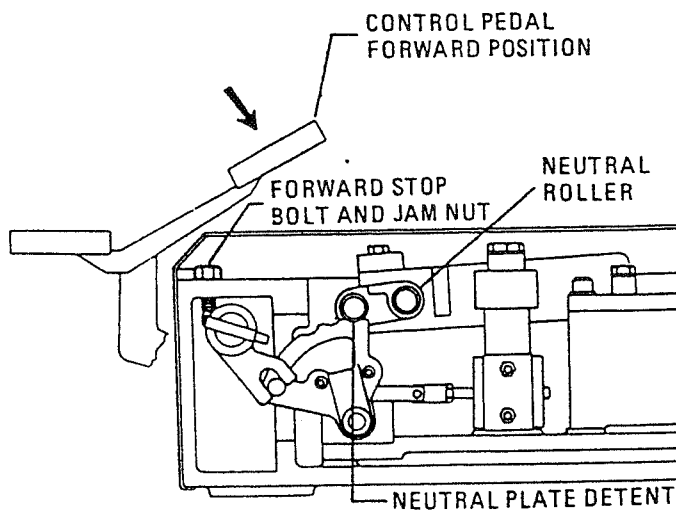

Figure 1-32.
3. Adjust the pedal forward stop bolt if necessary so that the roller rests in the middle of the detent. It should not go more than $1/16''$ past the middle. See figure 1-32.